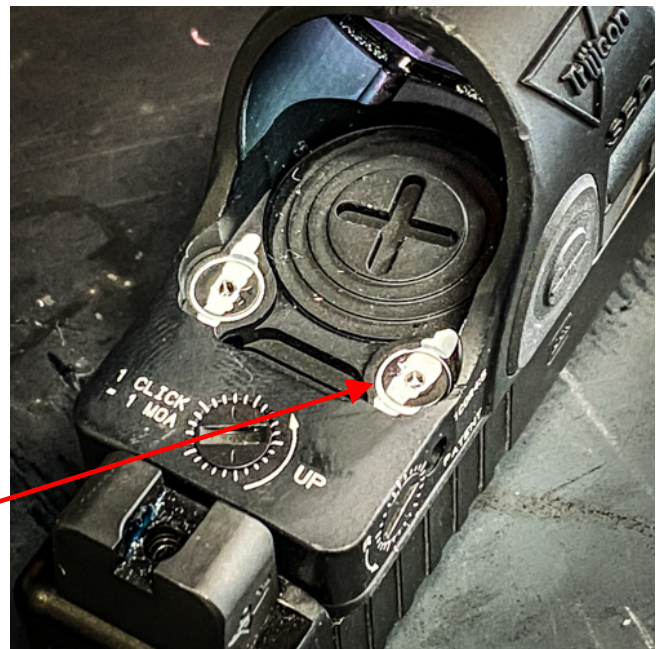

Figure 5
- Using a Sharpie oil based fine paint marker, apply a lateral witness mark across each screw head. Ensure a small amount of oil based paint flows into the ring recess between the screw head and the mounting surface. Allow witness marks to dry for at least five minutes. Figure 5
9. Using a Sharpie oil based fine paint marker, apply a lateral witness mark across each screw head. Ensure a small amount of oil based paint flows into the ring recess between the screw head and the mounting surface. Allow witness marks to dry for at least five minutes. Figure 5
6. **Witness Mark Alternative:** If you do not have access to an oil based paint marker, you can also use black fingernail polish by applying a brush stroke across the tops of each screw ensuring a small amount is deposited into the ring recess between the screw head and the mounting surface. Wipe off any excess. Allow five minutes to dry. Figure 5